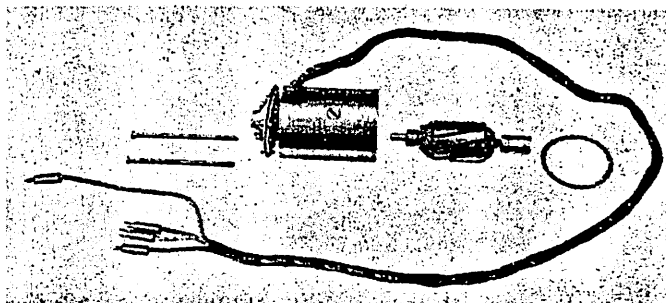

Fig. 10 ACTUATOR MOTOR
1. Motor. Remove the two through bolts. Tap the motor housing to free it from the casting. Withdraw the motor housing with care to prevent the slip joint coupling at the end of the motor shaft from sliding the worm gear shaft out of the gear box. (Figure 10)